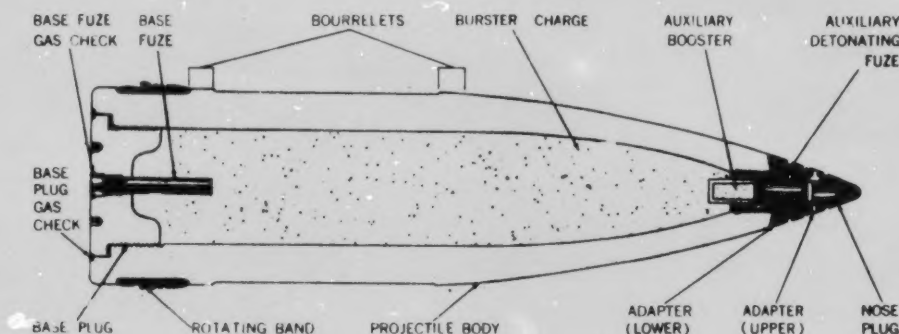

Figure 3-5.— Typical high capacity projectile, sectional view.
a. High-capacity (HC) (fig. 3-5) for use against unarmored surface or land targets. They are usually fuzed to function upon striking the target.